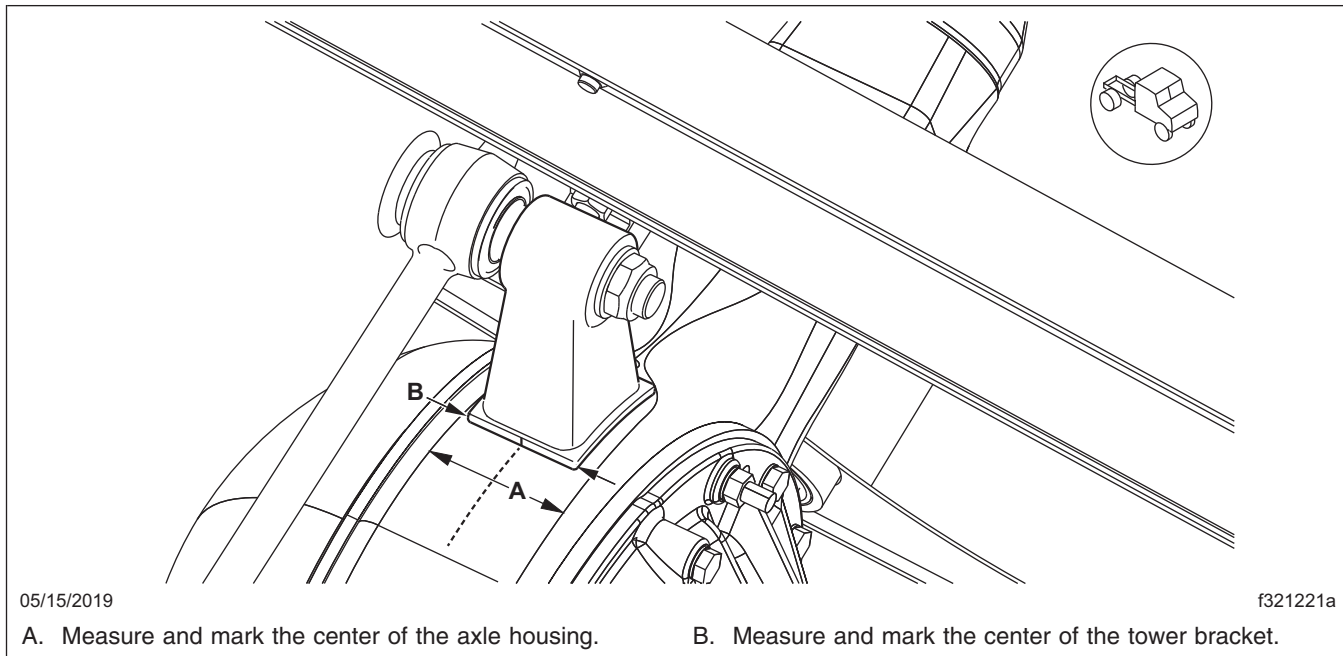

Fig. 3, Aligning the Tower Bracket and Axle Housing
13. Mark the center of the axle and the center of the tower bracket for ease of alignment when tack welding the bracket to the housing. See Fig. 3.